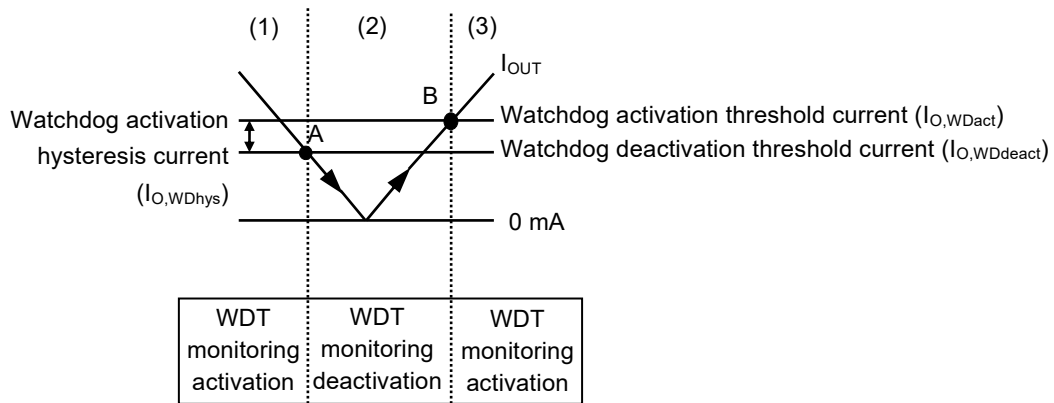

Figure 41 Autonomous Watchdog Operation Function
- (1) When I_{OUT} of the regulator is the watchdog activation threshold current ($I_{O,WDact}$) or more, the WADJ pin voltage (V_{WADJ}) is higher than the reference voltage (V_{ref}), and the output of the comparator (C1) is "H". At this time, the watchdog timer is activated.
- (2) When I_{OUT} decreases to the watchdog deactivation threshold current ($I_{O,WDdeact}$) (point A in **Figure 41**) or less, V_{WADJ} decreases to V_{ref} or less and the output of C1 is "L". At this time, the watchdog timer deactivates the monitoring. Even if I_{OUT} increases, the watchdog timer continues the monitoring deactivation when I_{OUT} is within less than $I_{O,WDact}$.
- (3) If I_{OUT} further increases to $I_{O,WDact}$ (point B in **Figure 41**) or more, V_{WADJ} increases to V_{ref} or higher and the output of C1 is "H". And then, the watchdog timer initiates the monitoring activation.